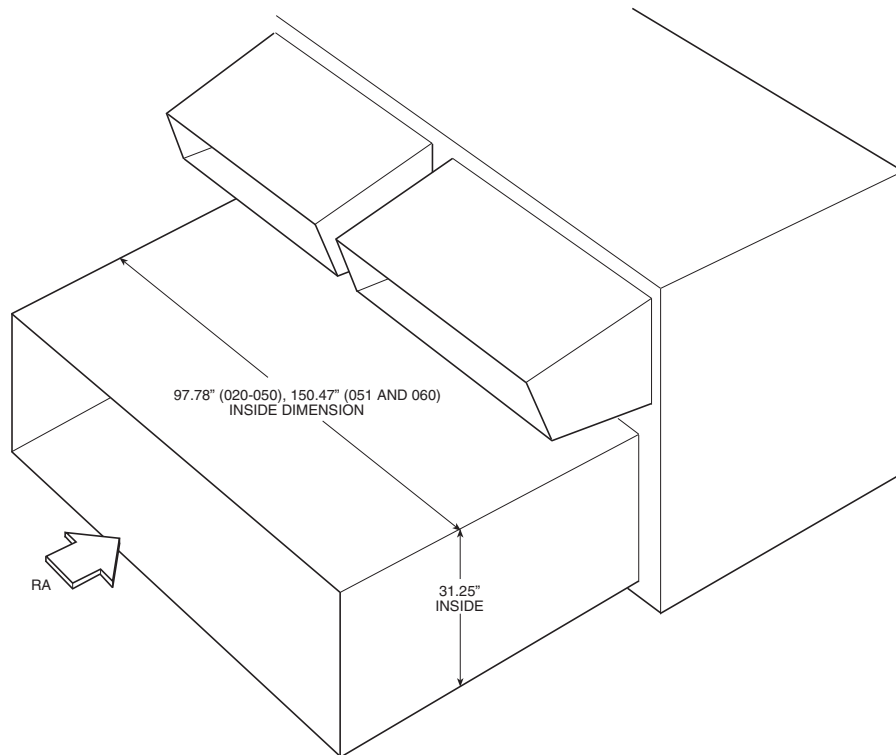

Fig. 43 — Side Return Duct Dimensions
3. Run the return air ductwork up to the openings. One single duct is recommended to connect to the unit over the return air openings. See Fig. 43. The return duct must incorporate a minimum 3/4-in. flange for connection to the unit cabinet. The unit does not have duct flanges for this conversion.
Space must be available in the return duct to mount the power exhaust fan (gravity relief) modules. Dimensions and suggested locations are shown in Fig. 43. These instructions are a guideline and not a comprehensive procedure. The design contractor must provide some design initiative.
the return duct as shown in Fig. 43 or externally in conduit. A service access panel will be needed near each power exhaust fan.